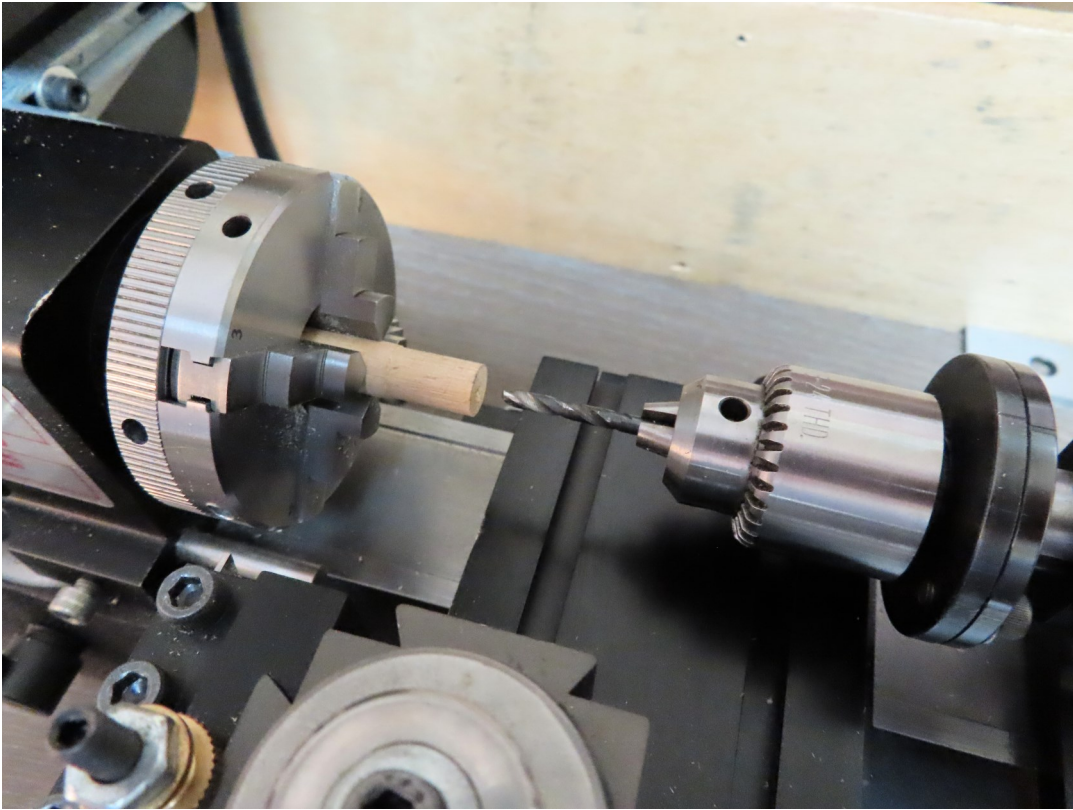

Fig. 1
**In figure 1**, for this demonstration only, you will see that I have a piece of 3/8 inch or 9.5mm plain hobby dowel that you can purchase at your local hobby shop, or hardware store in the Chuck. On the Tail Stock end (*see part I on lathe parts*), you will see I have mounted a Jacobs Chuck with a 1/8 inch or about a 3mm drill bit. The bit that I am using called a “*machine screw bit*” because it is much shorter than what is normally referred to as a